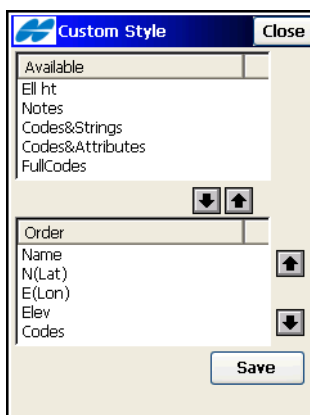

Figure 5-19. Custom Style
- **Edit (Format)** – changes the selected file format with the help of the same *Custom Style* screen (see Figure 5-19 on page 5-17).
On the **Custom Style** screen (Figure 5-19), use the arrows (up and down) to move the parameters you want from the top (*Available* panel) to the bottom (*Order* panel) of the screen in ascending or descending order.